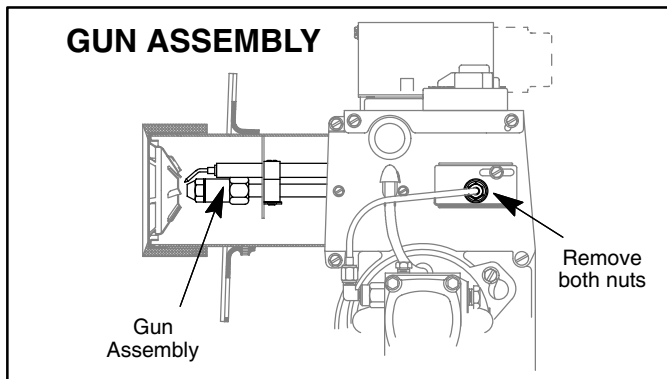

FIGURE 32
- 3- Remove nut connecting oil line to gun assembly oil line. See figure 32.